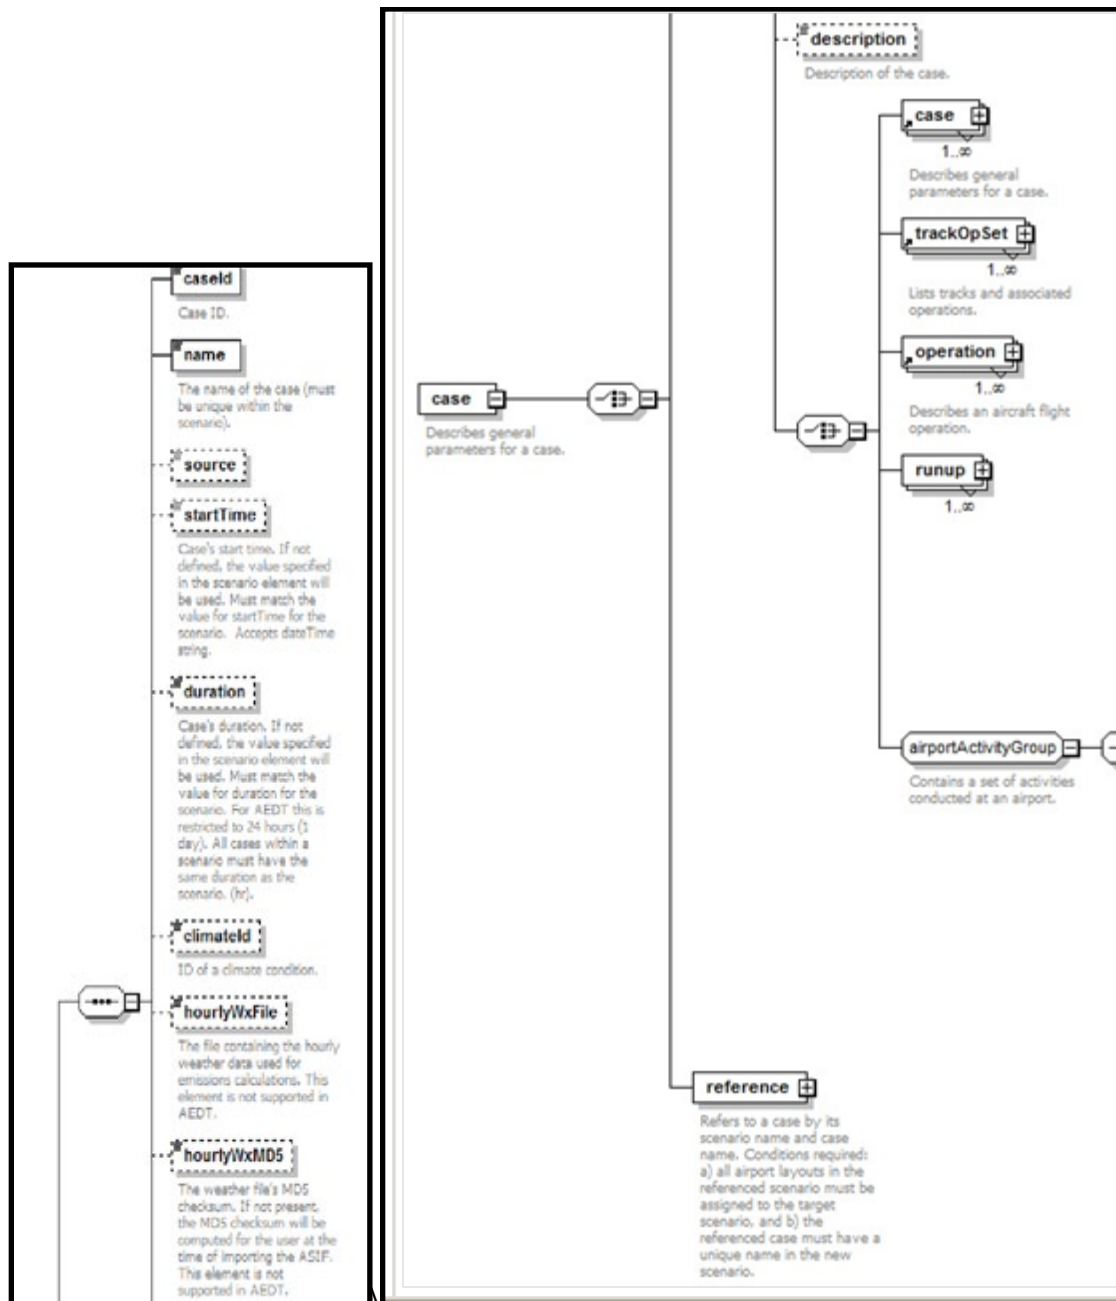

Figure 71. ASIF element – case
13. AsifXml/study/scenario/case (Figure 71):